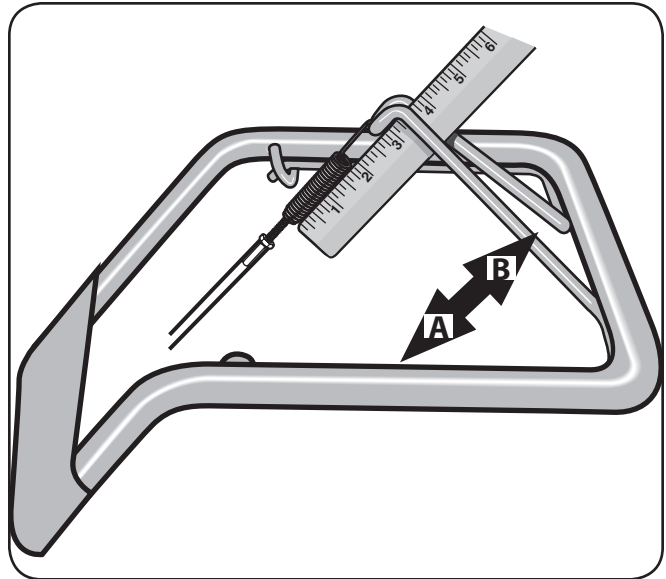

Figure 3-6
- a. With the Forward Clutch Bail in an open (released) position, measure the length of the cable spring from the outermost coil to the outermost coil. See Fig. 3-6.
- b. Squeeze the Forward Clutch Bail against the handlebar and re-measure the spring length. See Fig. 3-6.